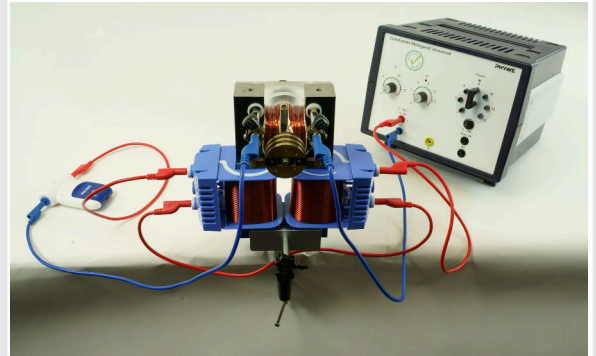

Fig. 2
- Complete the set-up according to Fig. 2 and Fig. 3.